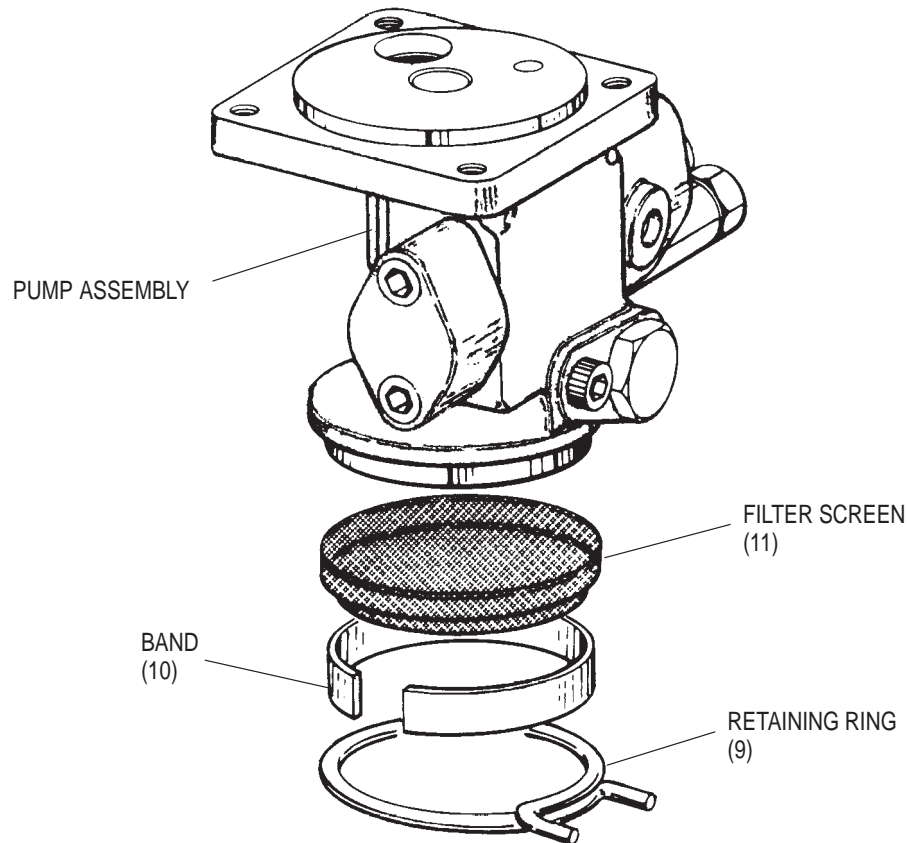

Figure 5-3. Maintaining Filter
1. Disconnect return pedal spring (65).
2. Remove retaining ring (1) and slide return pedal pivot pin (69) out of link (64).
3. Remove six pump assembly screws (70), holding reservoir cover (20) to reservoir (59), and carefully lift pump assembly from reservoir.
4. Remove retaining ring (9), band (10), and filter screen (11). See Figure 5-3.
2. Remove retaining ring (9), band (10), and filter screen (11). See Figure 5-3.
2. Disconnect return pedal spring (65) and remove retaining rings (1) and pin (69) from link (64).
5. Disconnect hydraulic fluid line (17) from valve body (44) and cover plate (20). This step is necessary only when checking outlet poppet.